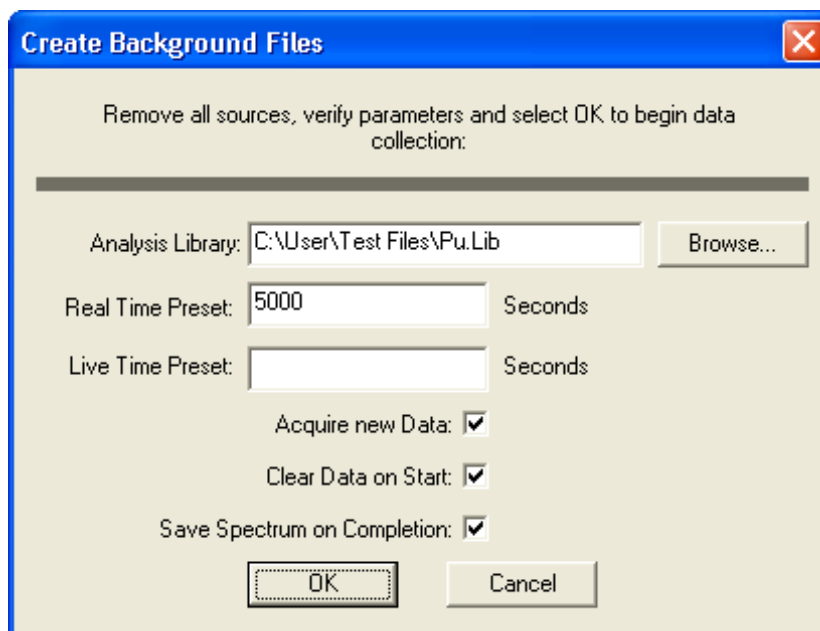

Figure 109. Creating a .PBC File from Live Spectral Data.
- Select **Create PBC...** to open the dialog shown in Fig. 109.